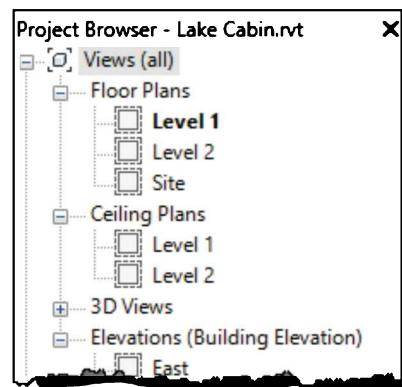

FIGURE 2-5.1 Project Browser
2. Make sure your current view is **Level 1**. The word “Level 1” will be bold under the heading *Floor Plans* in your *Project Browser*. If Level 1 is not current, simply double-click on the “Level 1” text in the *Project Browser* (Figure 2-5.1).